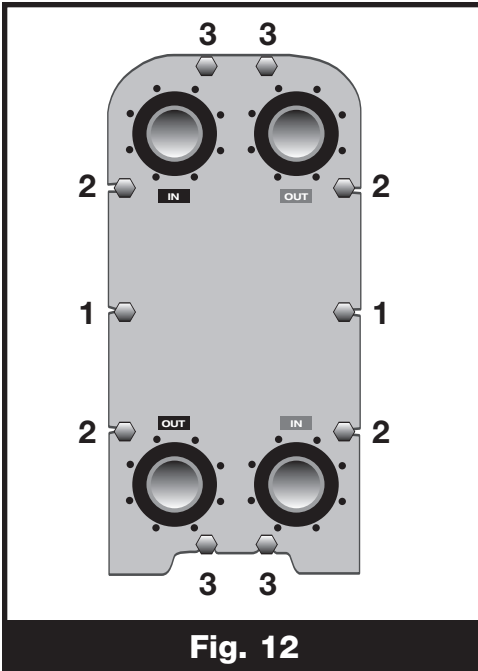

Fig. 12
- Loosen the clamping bolts equally in the correct order (Fig. 12.) so that the follower has a parallel opening motion.
- Evenly tighten all bolts in the correct order. (See Fig. 12.) Use ratchet wrenches or hydraulic tools.